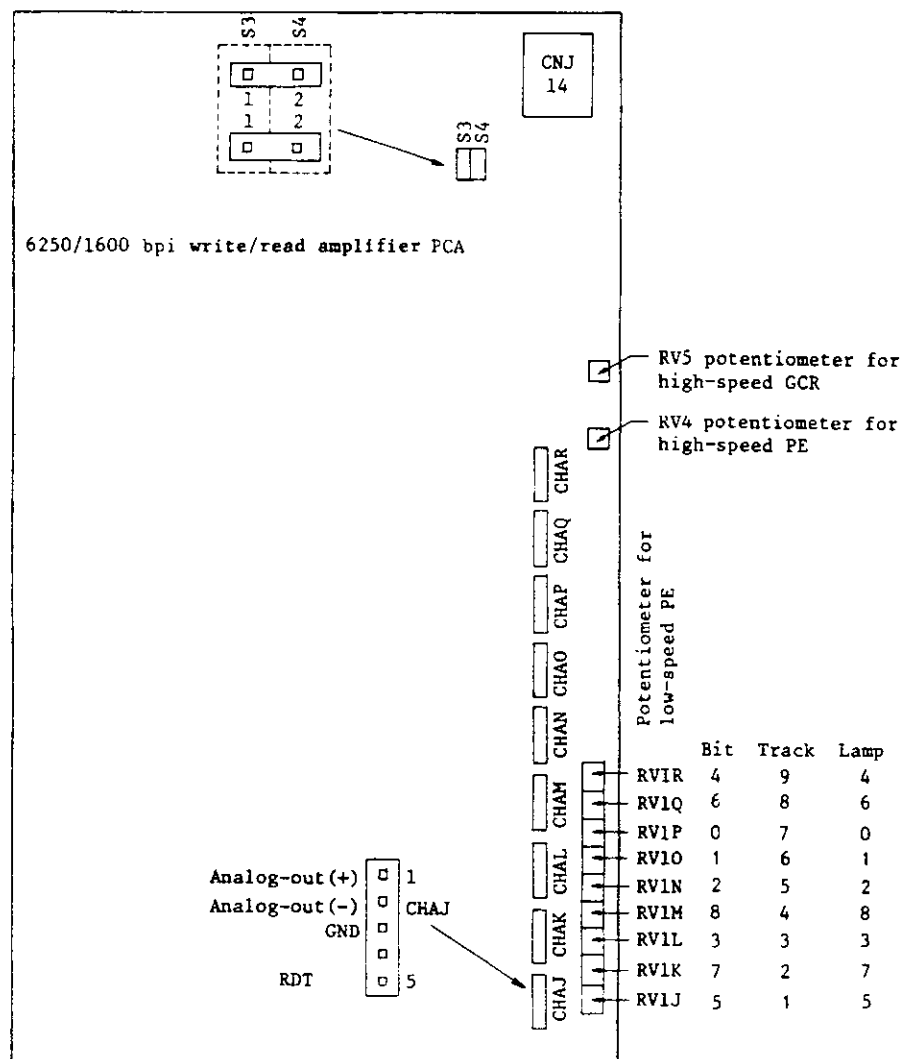

Figure K.15 Potentiometers and check terminals for lamps 0 through 8 on write/read amplifier PCA
- (1) Set field tester switches S0 through S7 to \$1E, and toggle the CNT switch to select the register address.
- (2) Set the field tester switches S0 through S7 to \$EA, and toggle the SSS switch to set the read mode, tape speed, and density. (For models M2431L and M2433L, use \$E8 setting.)
- (3) Set the field tester switches S0 through S7 to \$FA, and toggle the SSS switch to set the slice level to 100%.
- (4) Set the field tester switches S0 through S7 to \$89, and toggle the SSS switch to set the write, low-speed, phase encode mode. Lamps 0 through 8 will come on and should be semi-luminous (barely glowing).
- (5) Adjust the corresponding potentiometers (RV1R through RV1J) in Figure K.15, if necessary, to obtain semi-luminous status for lamps 0 through 8. Toggle the SSS switch to stop the tape.
- (6) Set the field tester switches S0 through S7 to \$F9, and toggle the SSS switch to set the slice level to 90%.
- (7) Set the field tester switches S0 through S7 to \$89, and toggle the SSS switch to set the write, low-speed, phase encode mode. Lamps 0 through 8 should be brightly lit.
- (8) Adjust the corresponding potentiometers shown in Figure K.15, if necessary. Toggle the SSS switch to stop the tape.
- (9) Set the field tester switches S0 through S7 to \$FB, and toggle the SSS switch to set the slice level to 110%.
- (10) Set the field tester switches S0 through S7 to \$89, and toggle the SSS switch. Lamps 0 through 8 should be off.
- (11) Adjust the corresponding potentiometers shown in Figure K.15, if necessary. Toggle the SSS switch to stop the tape.
- (1) Set the field tester switches S0 through S7 to \$1E, and toggle the CNT switch to select the register address.
- (2) Set the field tester switches S0 through S7 to \$EC, and toggle the SSS switch to set the tape to the high-speed mode.
- (4) Set the field tester switches S0 through S7 to \$89, and toggle the SSS switch for write, high-speed, phase encode mode.
- (5) Adjust potentiometer RV4 shown in Figure K.15 so that four or more of lamps 0 through 8 are lit. After adjustment, toggle the SSS switch to stop the tape.
- (6) Set the field tester switches S0 through S7 to \$F5, and toggle the SSS switch to set the slice level to 80%.
- (7) Set the field tester switches S0 through S7 to \$89, and toggle the SSS switch for write, high-speed, phase encode mode. Lamps 0 through 8 should be lit.
- (8) Adjust potentiometer RV4 if necessary. Toggle the SSS switch to stop the tape.
- (9) Set the field tester switches S0 through S7 to \$F7, and toggle the SSS switch to set the slice level to 125%.
- (10) Set the field tester switches S0 through S7 to \$89, and toggle the SSS switch for write, high-speed, phase encode mode. Lamps 0 through 8 should be off.
- (11) Adjust potentiometer RV4 if necessary. Toggle the SSS switch to stop the tape.
- (5) Set the field tester switches S0 through S7 to \$FA, and toggle the SSS switch to set the slice level to 100%.
- (6) Set the field tester switches S0 through S7 to \$8B, and toggle the SSS switch for write, high-speed GCR mode.
- (7) Adjust potentiometer RV5 in Figure K.15 so that four or more of lamps 0 through 8 are on. Toggle the SSS switch after adjustment to stop the tape.
- (8) Set the field tester switches S0 through S7 to \$F4, and toggle the SSS switch to set the slice level to 64%.
- (9) Set the field tester switches S0 through S7 to \$8B, and toggle the SSS switch for write, high-speed, GCR mode. Lamps 0 through 8 should be lit.
- (10) Adjust potentiometer RV5, if necessary, so that lamps 0 through 8 are lit. Toggle the SSS switch to stop the tape.
- (11) Set the field tester switches S0 through S7 to \$F7, and toggle the SSS switch to set the slice level to 125%.
- (12) Set the field tester switches S0 through S7 to \$8B, and toggle the SSS switch for write, high-speed, GCR mode. Lamps 0 through 8 should be off.
- (13) Adjust potentiometer RV5, if necessary, so that lamps 0 through 8 are off, and then toggle the SSS switch to stop the tape.